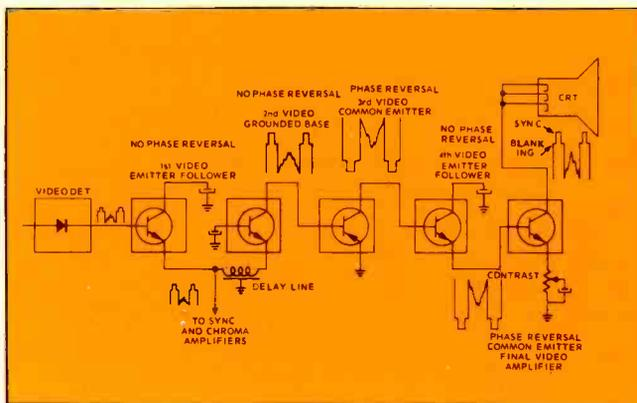

Fig. 1—Simplified block diagram of a five-stage color TV video amplifier section.
■ The block diagram in Fig. 1 illustrates how the luminance signal is processed in the video amplifier section of a typical solid-state color TV receiver. The direction of the video detector diode shows that the video output from it will be positive-going. The 1st video is an emitter follower; there is no phase reversal and no amplification, but it does provide a low-impedance feed to the sync and chroma amplifier circuits and prevents them from loading the detector stage. The 2nd video is emitter-fed, and though there is no phase reversal, there is considerable amplification. The 3rd video is a base-fed (common-emitter) amplifier which amplifies the signal and reverses its phase.